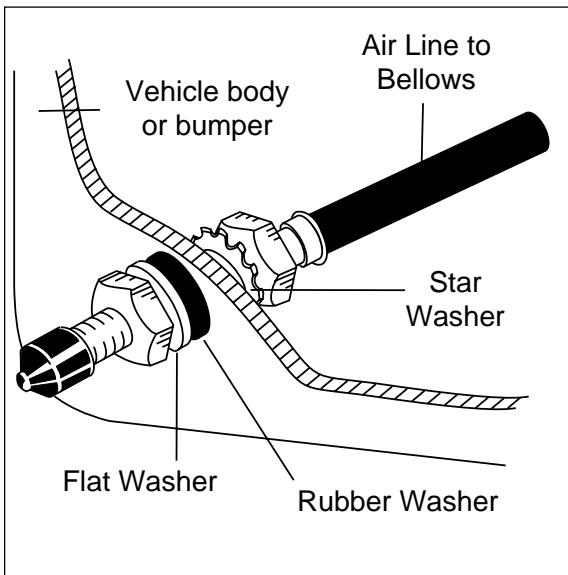

Figure 6
2. Use a standard tube cutter, a razor blade, or very sharp knife to cut the air line. A clean square cut will ensure against leaks. Cut the air line in two equal lengths. Drill $\frac{5}{16}$ " hole for inflation valve and mount as illustrated. Rubber washer on the outside is for weather seal (Figure 6).